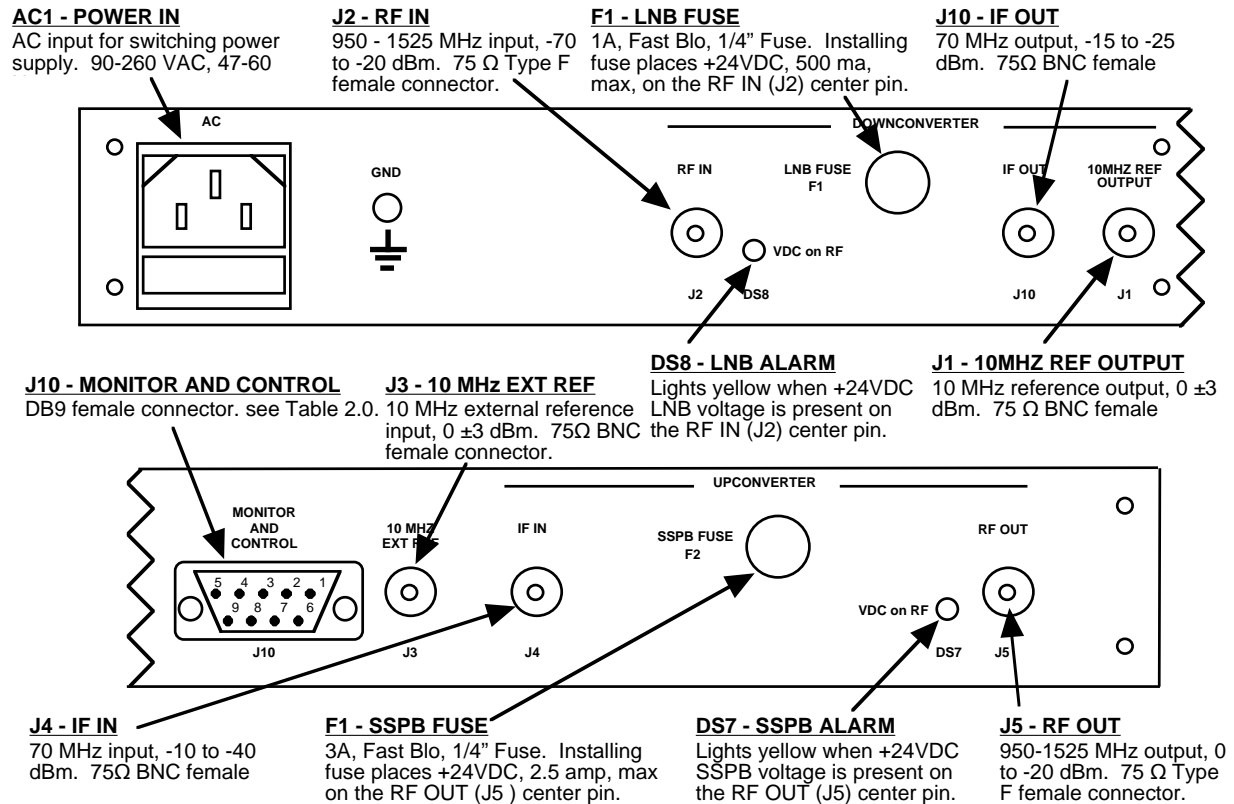

Figure 2.1 Model 2017 Rear Panel I/O's
2.2 Rear Panel Input/Output Signals and Level Control - Figure 2.1 shows the input and output connectors on the rear panel.
- 1.) Connect a -10 dBm to -40 dBm signal to IF In, J4 (Figure 2.1)
- 1.) Connect a -70 dBm to -20 dBm signal to RF In, J2 (Figure 2.1)